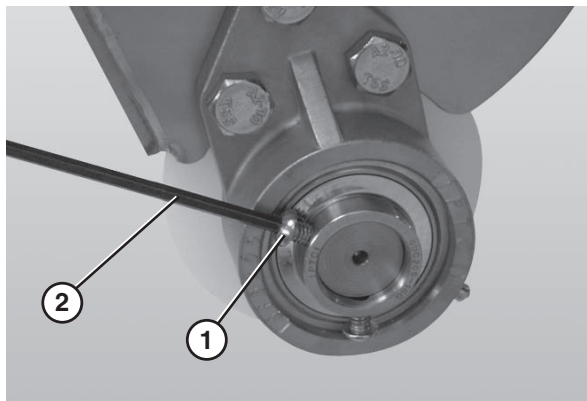

Figure 77
5. Tighten the 3 hole flange with bearing fasteners (Figure 77, item 1) using a hex wrench (Figure 77, item 2) to 6 N•m (54 in•lbs). Check after 24 hours of conveyor use.